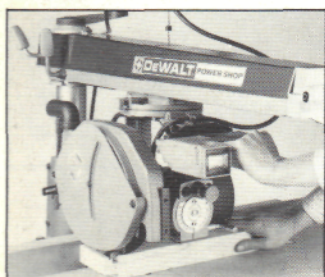

Fig. 45
- (iv) If the rebating is necessary for a mortice and tenon joint, then the Dado Head can be used in the normal cross-cut position with repeated passes of the Head across the material until the required width of rebate has been obtained (Fig. 45).